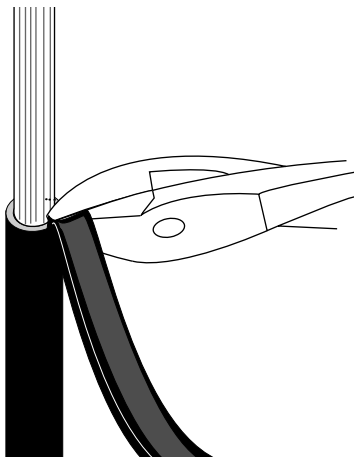

Figure 8
4.12 At the ring cut, carefully flex the sheath and remove it. Side cutters may be helpful in removal (Figure 8).